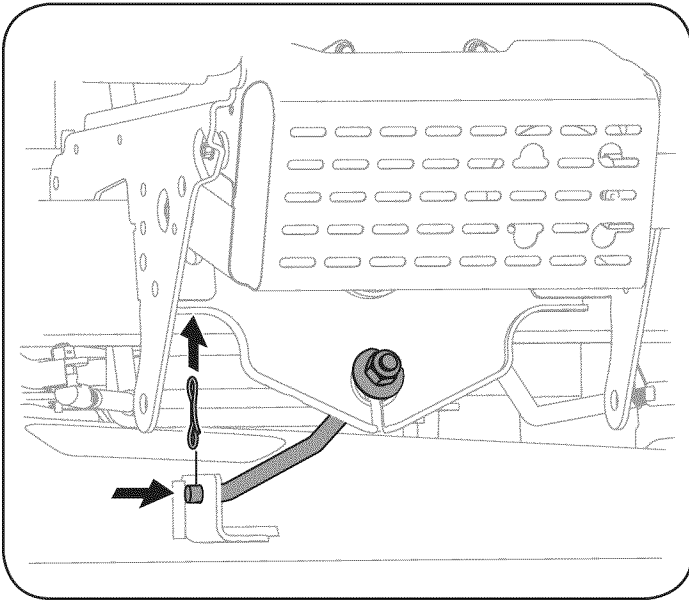

Figure 21
8. Remove the bow-tie cotter pin securing the deck stabilizer rod to the deck. Slide the deck lift rod from the mounting bracket on the deck as seen in Fig. 21.